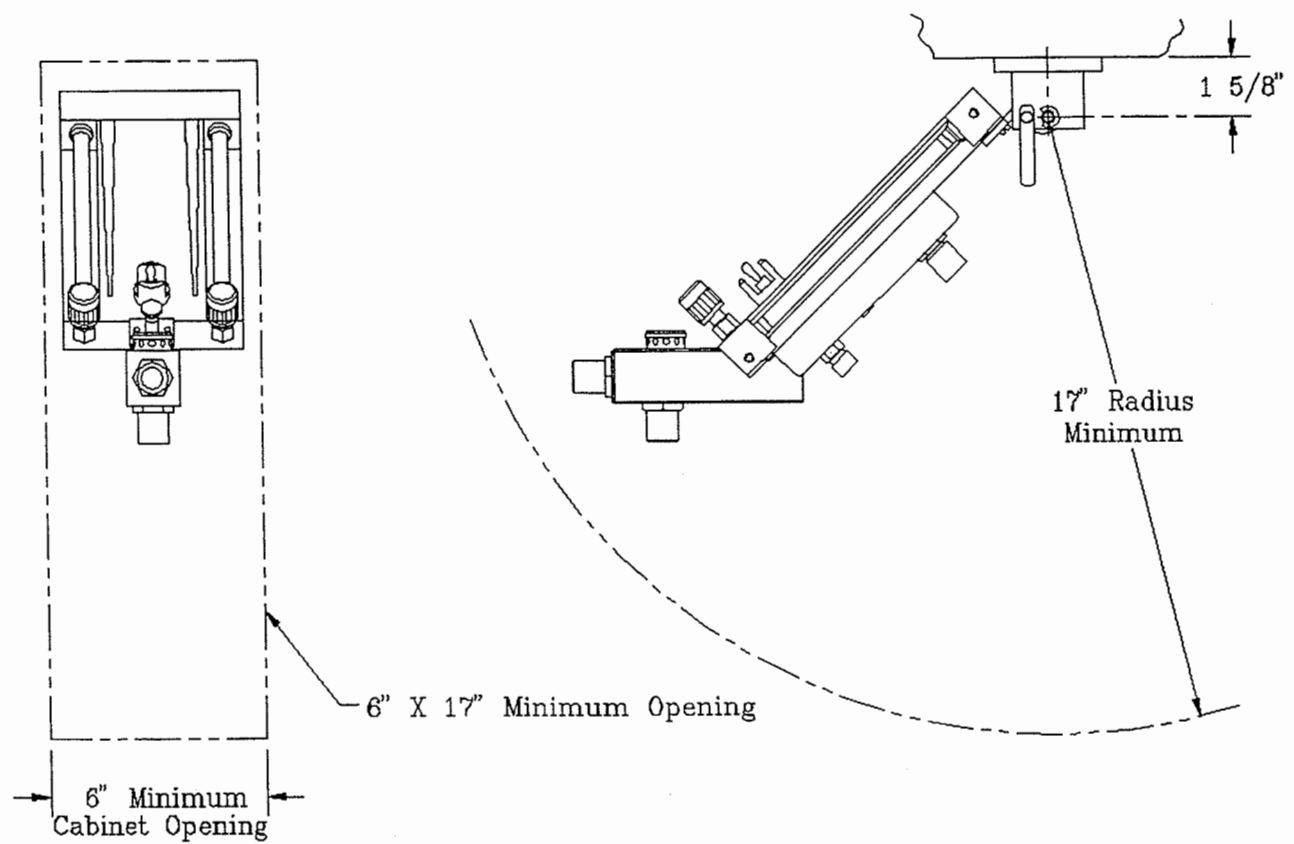

Figure 29
D) RA Cabinet Mounted (see fig 29)